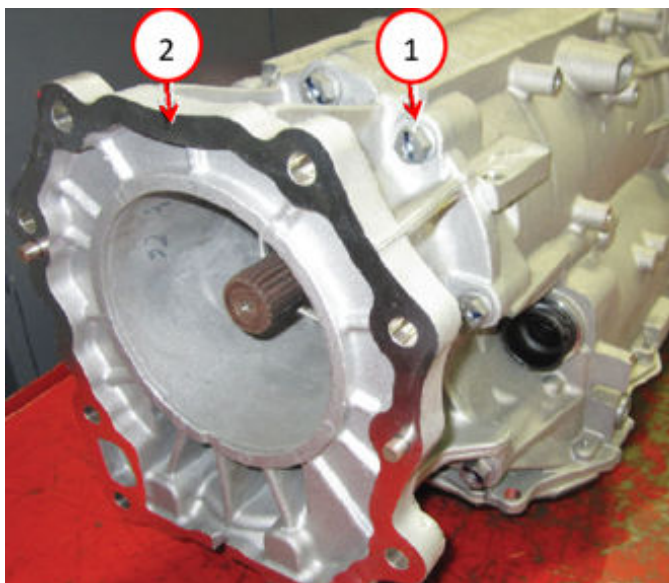

Fig. 3
3. If equipped with 4WD, remove the transmission housing extension bolts and remove the extension housing Fig. 3.